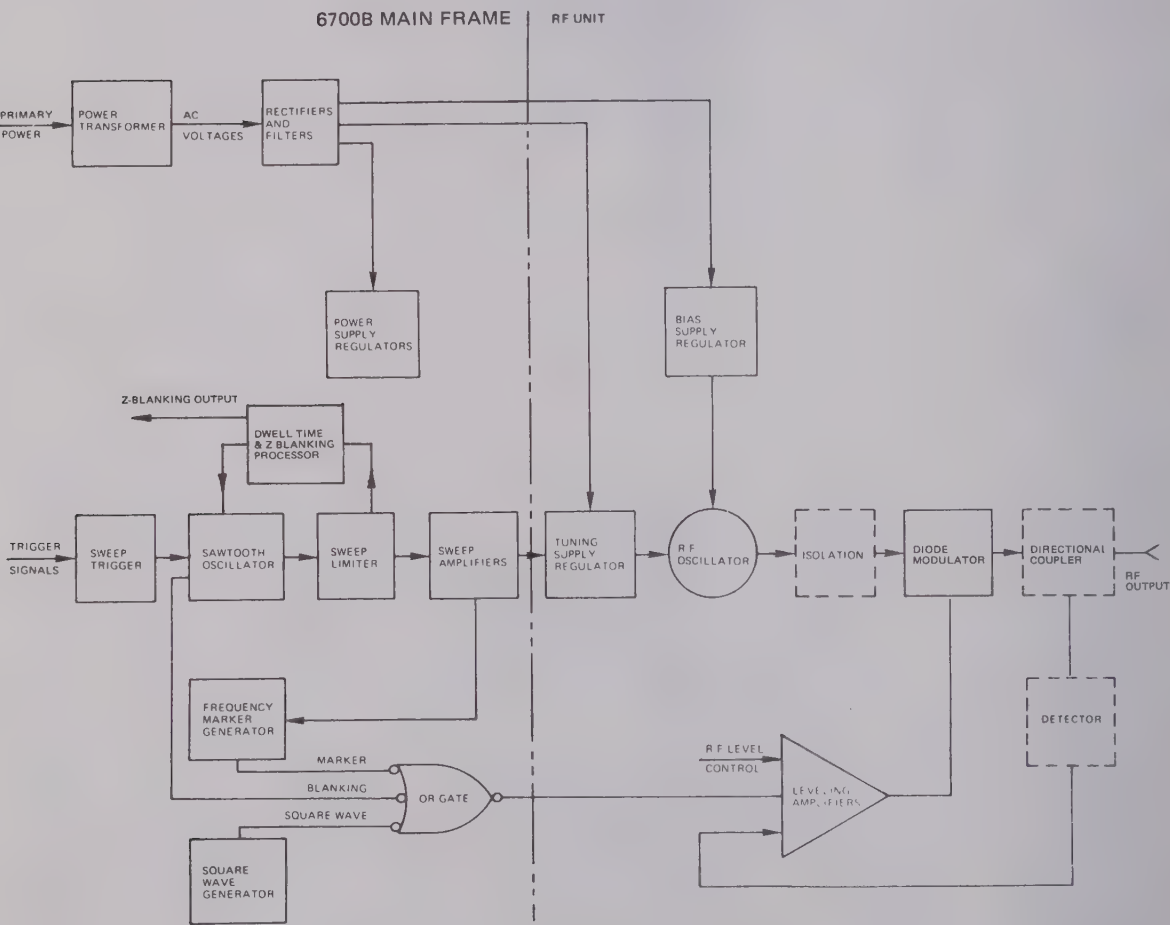

Fig. 1 Block diagram of type 6700B mainframe and r.f. unit
2. The type 6700B mainframe, as shown in Fig. 1, contains sweep generating circuitry consisting of a sweep trigger, sawtooth oscillator, sweep limiter and sweep amplifiers; a frequency marker generator; a square wave generator (for internal amplitude modulation); and a power supply section for generating the various voltages required for both the mainframe and the r.f. unit.